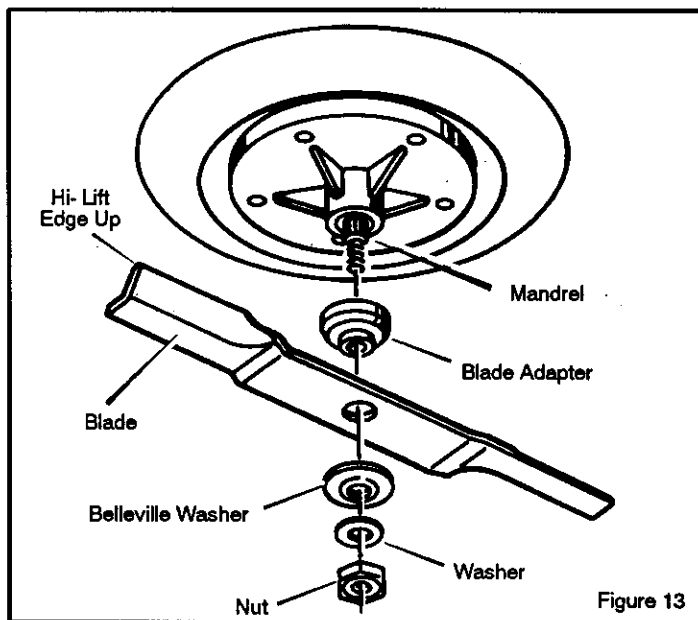

Figure 13
3. Remove the nut that holds the blade (Figure 13).
6. Mount the blade and blade adapter on the mandrel (Figure 13).